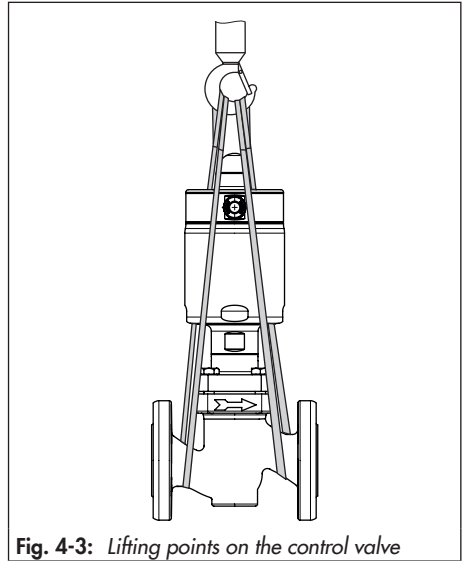

Fig. 4-3: Lifting points on the control valve
1. Attach one sling to each flange of the body and to the rigging equipment (e.g. hook) of the crane or forklift (see Fig. 4-3).